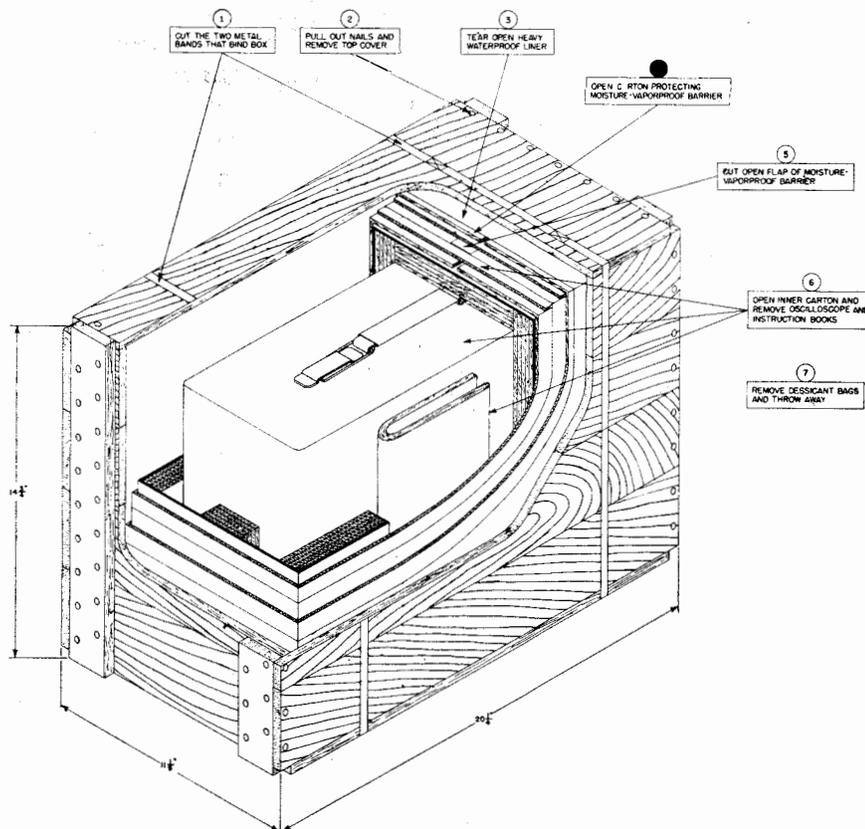

Figure 3-2. Cutaway View of Export Packaging
b. UNPACKING.—As shipped, each equipment is packed in a substantial wooden case which is sufficiently sturdy and affords sufficient protection to the equipment to permit it to remain exposed to the weather for an indefinite time. When opening the packing case and removing the equipment (See Figure 3-2), care should be taken not to dent or otherwise damage the metal housing of the equipment in order to preserve its water-tightness.